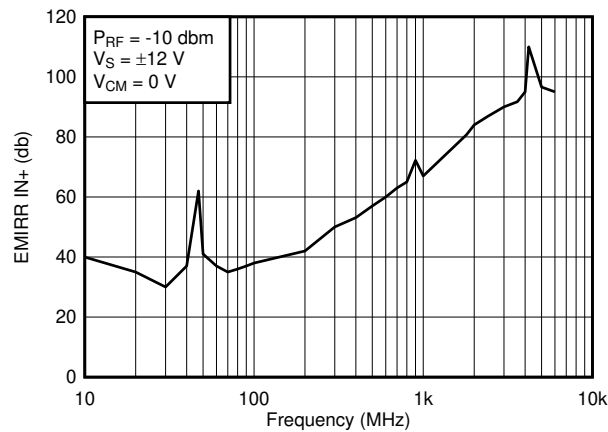

Figure 7-6. OPA2140 EMIRR
- EMIRR is easier to measure on noninverting pins than on other pins because the noninverting input terminal can be isolated on a PCB. This isolation allows the RF signal to be applied directly to the noninverting input terminal with no complex interactions from other components or connecting PCB traces. Figure 7-6